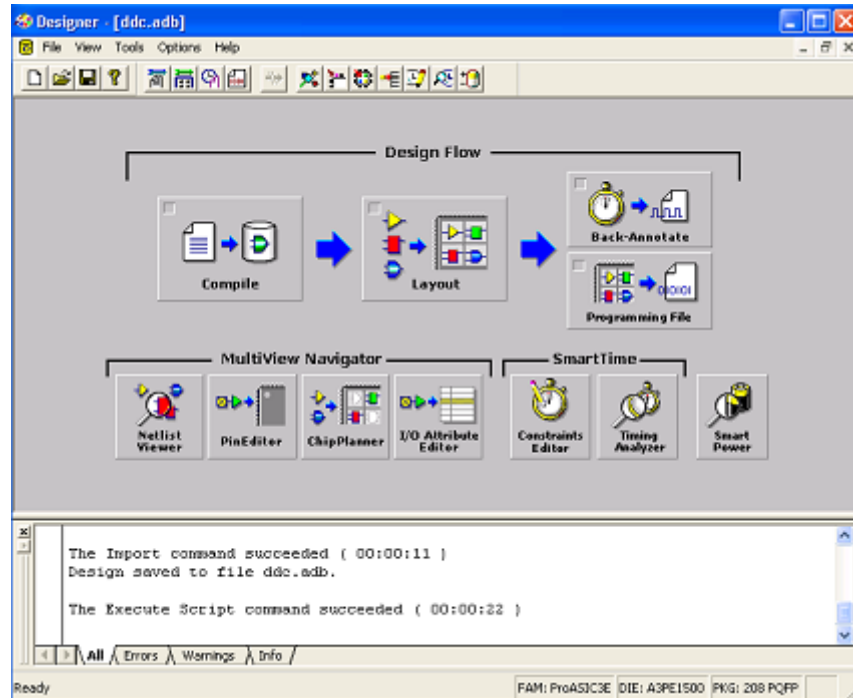

Figure 2-16. Libero IDE Designer User Interface
1. Double-click the Designer **Place-and-Route** icon in the Libero IDE **Process** window, or right-click **ddc** in the **Design Hierarchy** tab of the Design Explorer Window and select **Run Designer**. The Actel Designer application opens and the design file (*ddc.edn*) is automatically read in (Figure 2-16).